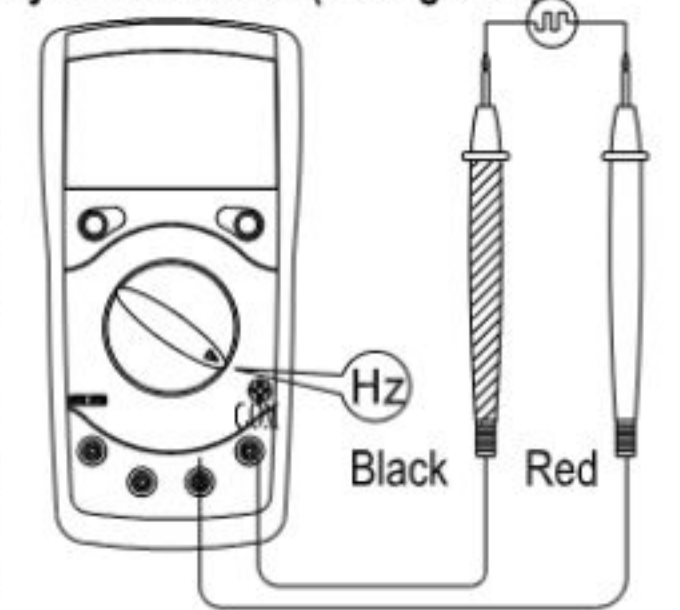

figure 6
F. The Model UT39C: Frequency Measurement (see figure 6)